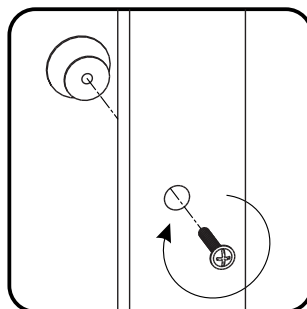

Figure 8
Attach Knob to Door (N) with Machine Screw. (See Figure 8)